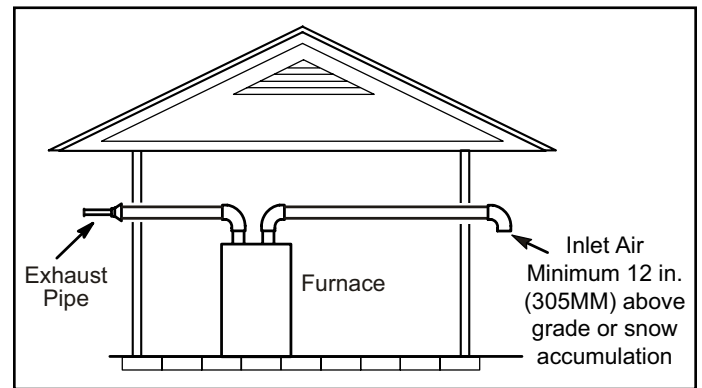

Figure 30. Exiting Exhaust and Intake Vent (no common pressure zone)
1. Intake and exhaust terminations are not required to be in the same pressure zone. You may exit the intake on one side of the structure and the exhaust on another side (Figure 30). You may exit the exhaust out the roof and the intake out the side of the structure (Figure 31).